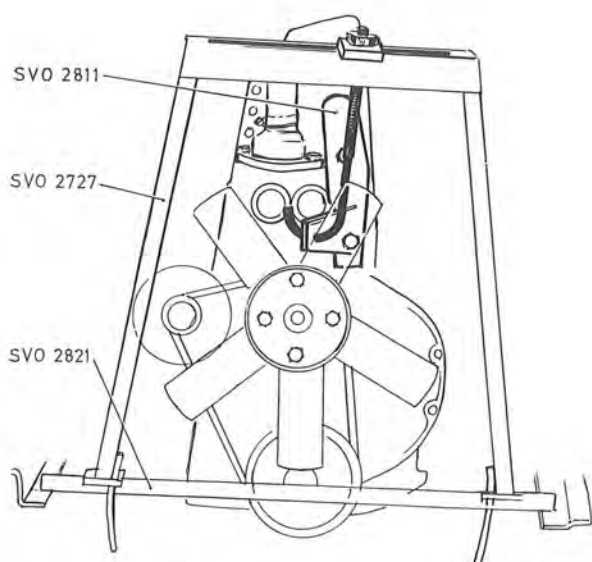

Fig. 6-15. Tool for lifting engine
1. Install the lifting plate SVO 2811 on the engine and also lifting tool SVO 2727 together with the extension rod SVO 2821, see Fig. 6-15. Raise the engine until the weight is taken of the front engine mounting. Remove the hub caps and loosen the nuts for the front wheels a couple of turns.